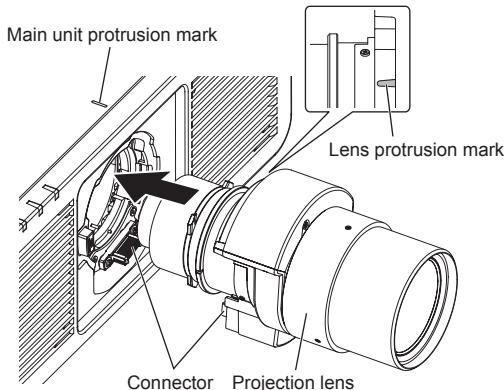

Fig. 1
- 1) Align the protrusion mark on the projection lens with the protrusion mark on the main unit and insert it all the way (Fig. 1).